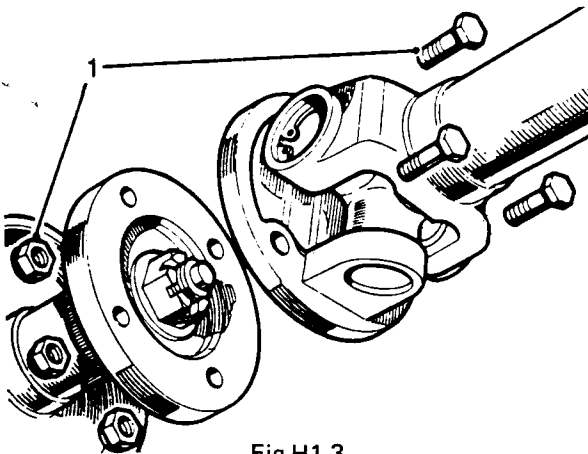

Fig H1.3
- (5) Refer to Fig H1.3. Remove the front propeller shaft fixings (1) at the front output coupling.
- (6) Move aside the shaft.